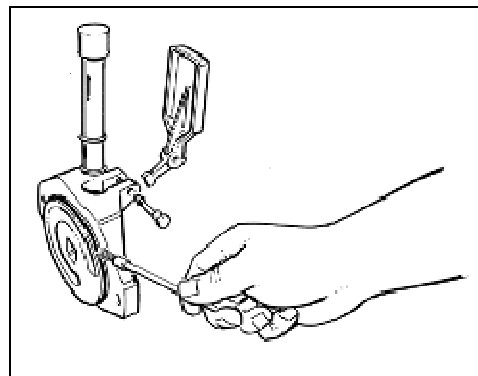

Fig. 18
- Carefully lubricate the sealing gasket of the front flange (fig. 18).